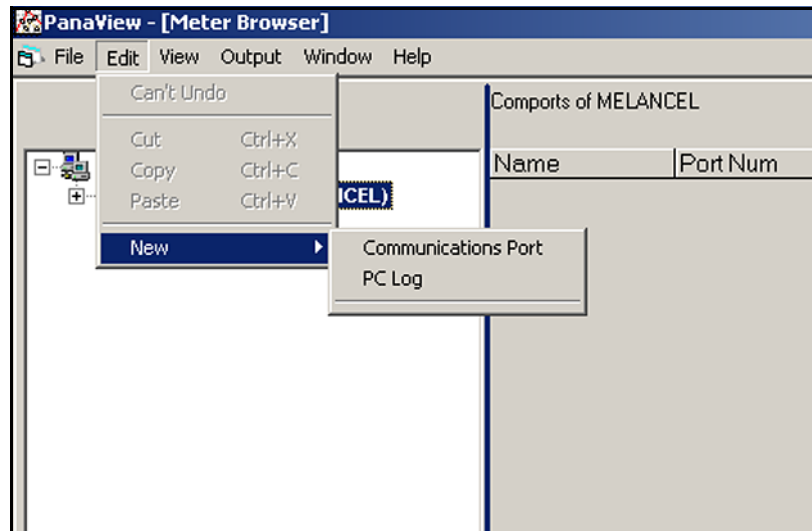

Figure 18: The Edit Menu
3. Click on the “*New*” menu option to select it, and a submenu opens with two choices (see *Figure 18* below).